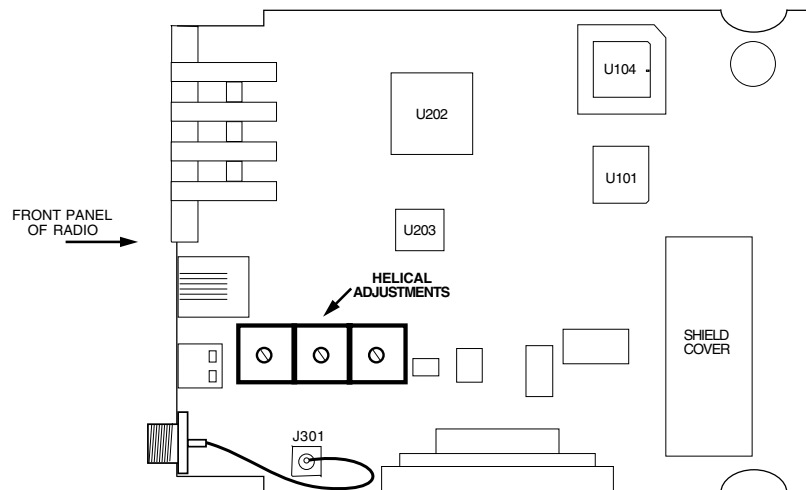

Figure 12. Helical Filter Location
2. Locate the helical filters on the PC board. See Figure 12.